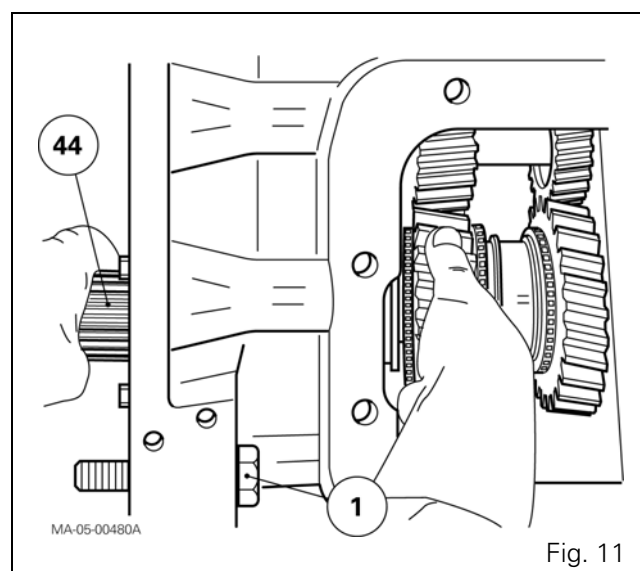

Fig. 11
41. Fit the output shaft (44) while holding the gear assembly (Fig. 11).
60. Refit the selector cover plate (see chapter 5), by first checking for the presence of the screw (1) (Fig. 11).